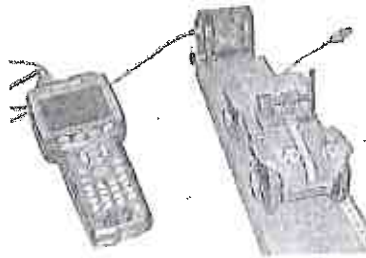

Fig. 2: Equipment setup
1. Place the PASCO track on a table and attach the Motion Sensor to one end of the track as shown in figure 2.